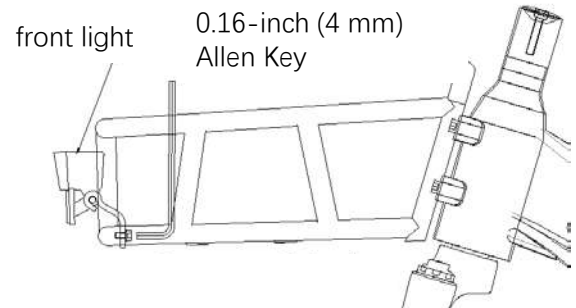

Figure 8.
4. Take off the front light that is tied on the frame and mount it on the basket with 4 mm Allen key, as shown in Figure 8. Then, tie the light cables to the bottom of the basket with the cable.